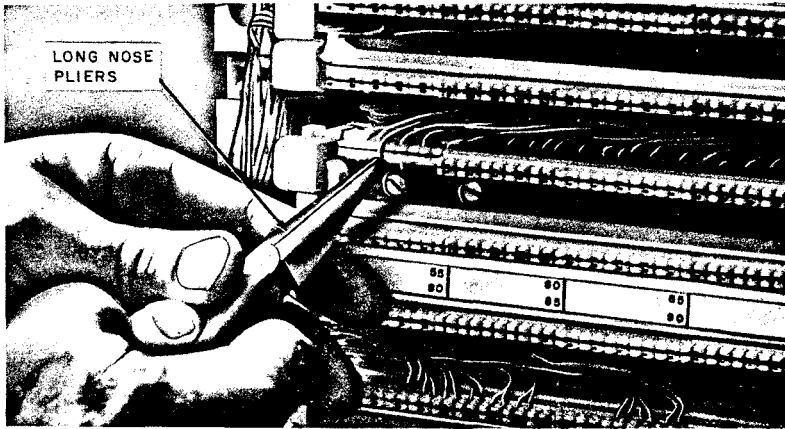

Fig. 22—Replacing Cable Conductor With Long-Nose Pliers
- (1) Using long-nose pliers as shown in Fig. 22, grip the cable conductor to be replaced and pull to obtain slack, then reposition the conductor in its original position on the index strip. If enough slack cannot be obtained to reposition the conductor in the index strip, it will be necessary to piece out the conductor as outlined in Section 631-620-105.
- (2) Using the single pair insertion tool (788D-type) or D impact tool, seat the conductor firmly in the bottom of the index strip and cut off the excess.